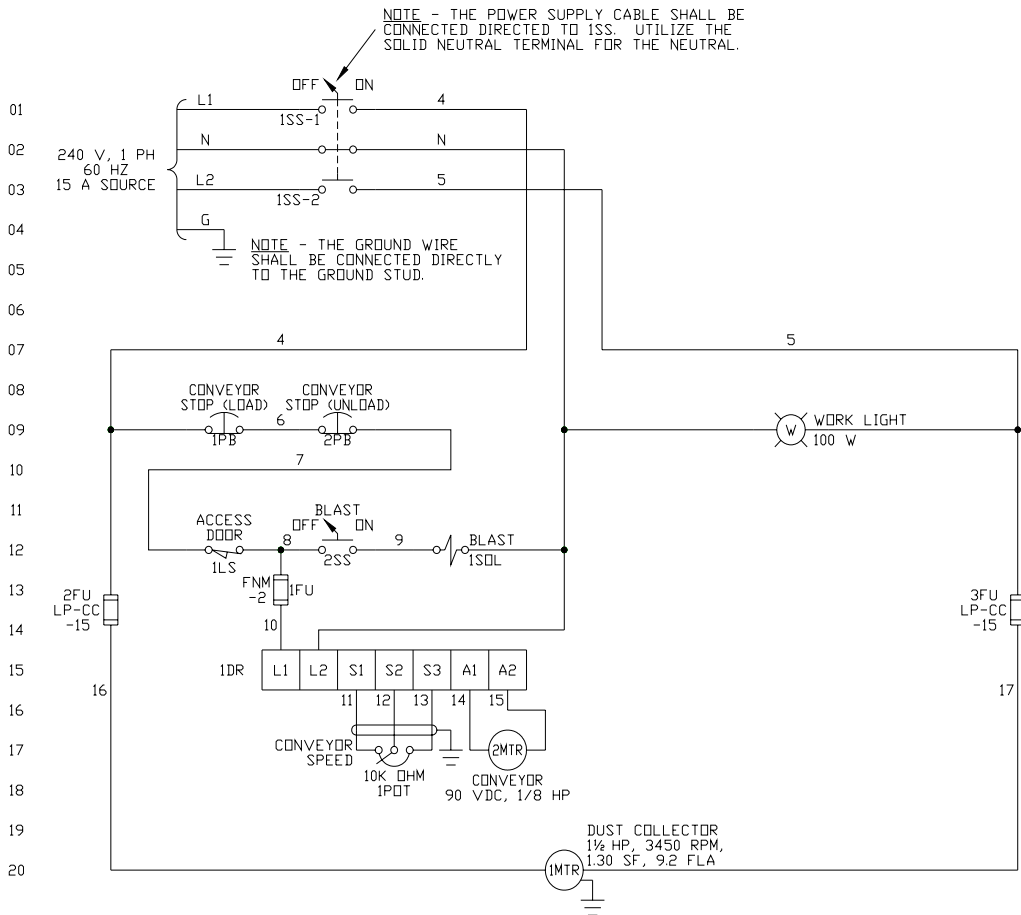

Figure 2 - IL-885 Electrical Diagram
of 15-amp service is required. See Figure 2 below.
Step 5: Install a suitable customer supplied power cord and second strain relief in the Electrical Enclosure. Connect this cord to the appropriate 1SS connections as shown in Figure 2.